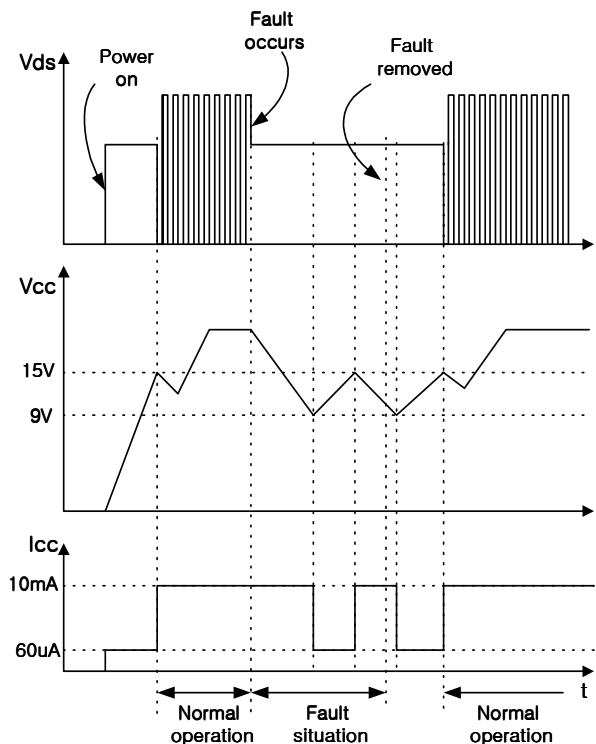

Figure 3. Auto restart operation after protection
**3. Protection Circuit :** Besides pulse-by-pulse current limit, the FS6X1220RT has 3 self protection functions; over load protection (OLP), over voltage protection (OVP) and thermal shutdown (TSD). Because these protection circuits are fully integrated into the IC without external components, the reliability can be improved. In the event of these fault conditions, FS6X1220RT enters into auto-restart operation. Once the fault condition occurs, switching operation is terminated and MOSFET remains off, which causes Vcc to be reduced. When Vcc reaches 9V, the protection is reset and the supply current reduces to 60μA. Then, Vcc begin to increase with the current provided through the start-up resistor. When Vcc reaches 15V, FS6X1220RT resumes its normal operation if the fault condition is removed. In this manner, the auto-restart alternately enables and disables the switching of the power MOSFET until the fault condition is eliminated as illustrated in figure 3.